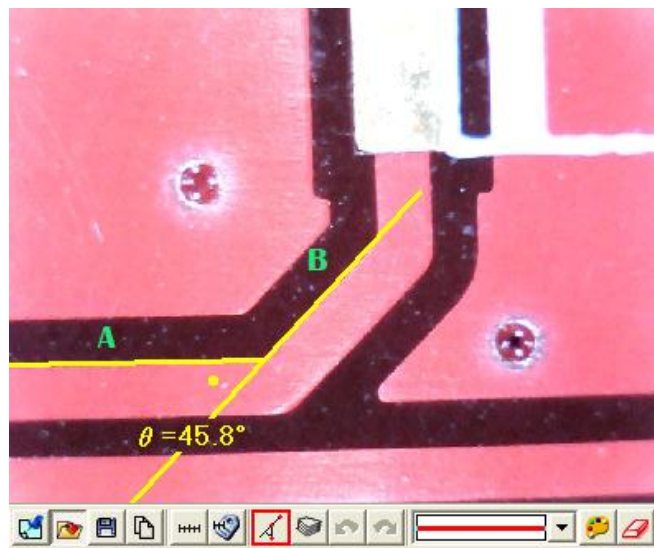

Fig 5-71 3 Points Chamfer
- (2) 3 Points Chamfer: Measure chamfer and use . Draw first line on the angle (see line A) and press the left mouse button to drag a line on the other side of the angle (See line B) to calculate the chamfer. See Fig 5-71.. There is a small dot inside the chamfer and shows 45.8°.